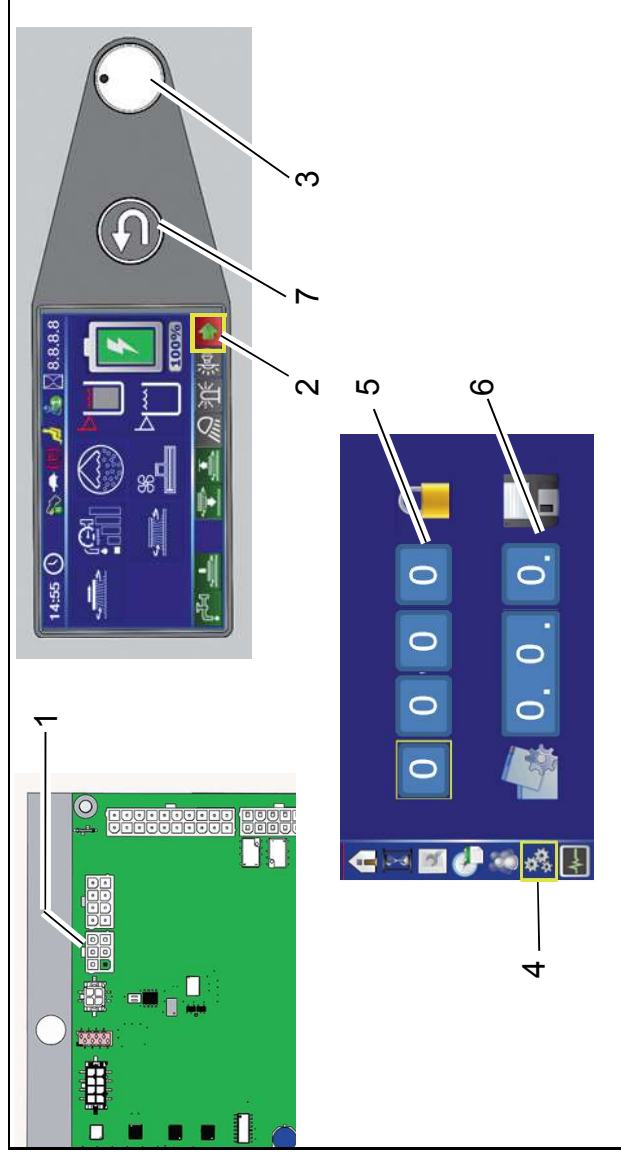

Fig. 3
Connect diagnosis plug to slot X20 of controller A1 (Fig. 3/1).
2. Select the arrow softkey (Fig. 3/3) on the control panel using the turn-push knob (DDS) (Fig. 3/2) and press to access the sub-menu.
3. Select the configuration menu in the sub-menu (Fig. 3/4).
4. Enter the 4-digit code in the configuration menu at the top (Fig. 3/5):
5. Select the value of the option under (Fig. 3/6) in the configuration menu and save by pressing the DDS. After confirmation of the final digit, OK? appears. Press the DDS again to save the value. The saved value is now displayed in green. If the value is not to be saved, exit the menu using the return button (Fig. 3/7).